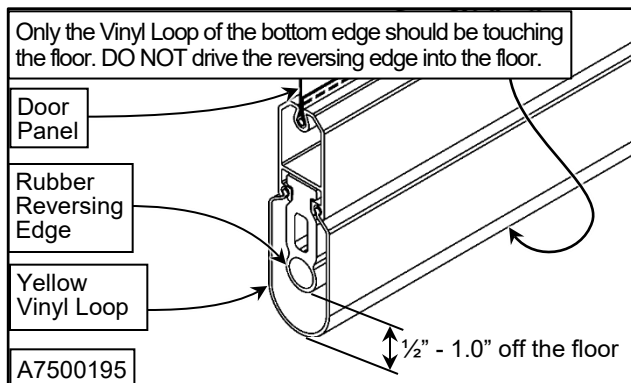

Figure 21
- With the door in the closed position, check the yellow vinyl loop on the bottom bar. It should be in the position as shown in Figure 21.
Damage to the rubber reversing edge or other bottom bar parts can occur if the door is allowed to seal too tightly against the floor. (See Figure 21)